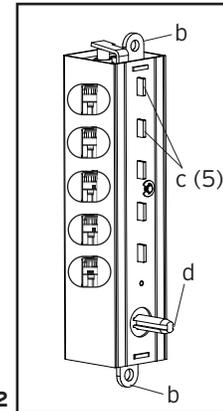

Fig. 2
1. Hold the chamber in one hand by the screw tab (**b**) on each end with the key-stems (**c**) facing you and the control shaft (**d**) at the bottom (**See Figure 2**).
2. Using pliers or equivalent, rotate the control shaft (**d**) counterclockwise and release to clear the chamber (**See Figure 2**).